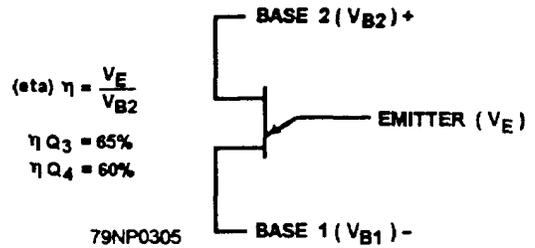

Figure 8-36.—Unijunction transistor.
Before continuing with the circuit description, you need a brief explanation of the operation of a unijunction transistor (fig. 8-36). A unijunction transistor has two bases, B1 and B2, and one emitter. When the voltage between B1 and the emitter rise to a certain percentage of the voltage between B1 and B2, the unijunction transistor will fire. The percentage is equal to emitter voltage divided by the B2 voltage. In the case of the unijunction transistors, it is equal to a nominal 62 percent. This means that when the emitter voltage is approximately 60 percent of B2 voltage, both in reference to B1, the unijunction transistor will fire. By knowing that (1) Q3 and Q4 have different values for the same voltage, (2) C6 has a definite charging rate (determined by R9, R10, R13, and rectifier CR14), and (3) that different beat frequencies have different time intervals, you should have a basic understanding of how the timing circuit operates.